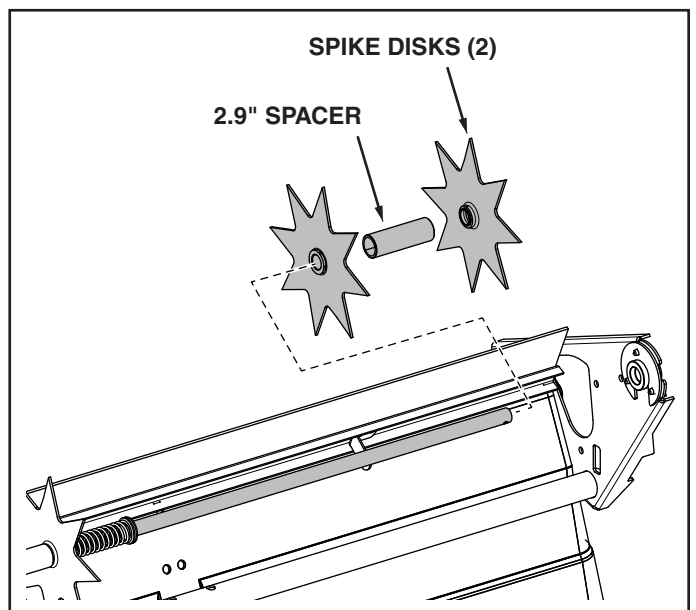

FIGURE 8
10. Assemble two spike disks and a 2.9" spacer onto the axle. The flat side of the disks should face away from the spacer. See figure 8.